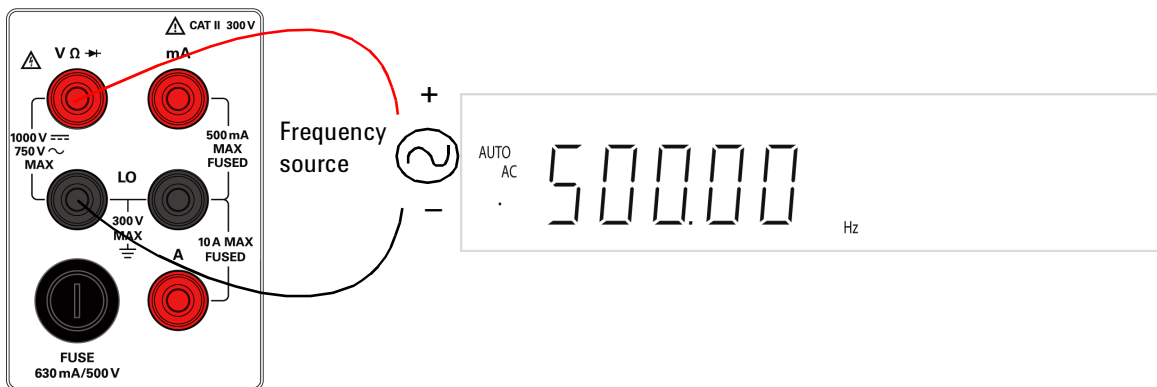

Figure 2-5 Frequency terminal connection and display
- 2 Connect the red and black test leads to the input terminal as shown in Figure 2-5.